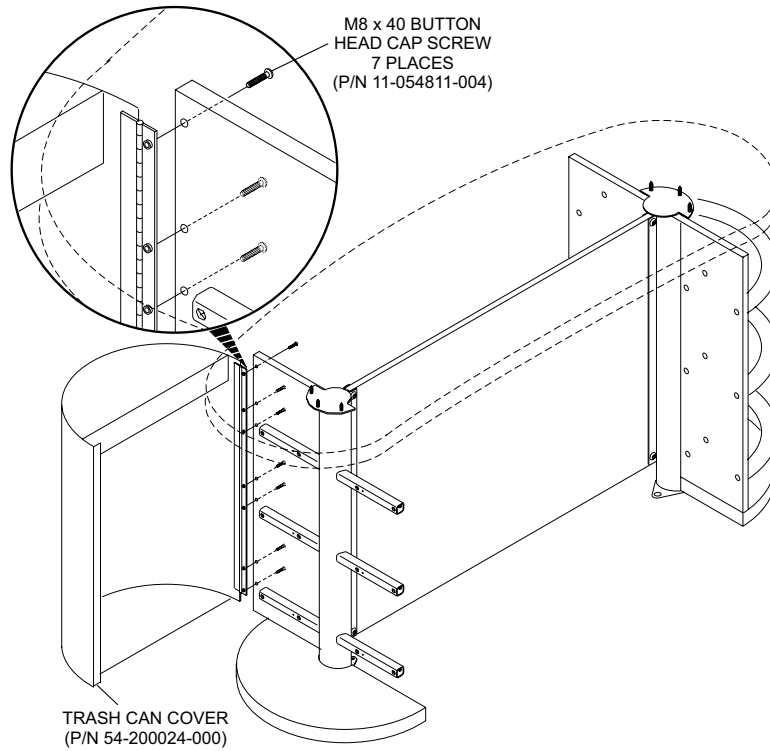

Figure 7
2. Use two people to support, level and secure the trash can cover (P/N 54-200024-000) hinge to the wood panel using seven M8 x 40 button head cap screws (P/N 11-054811-004). Refer to *Figure 7*.